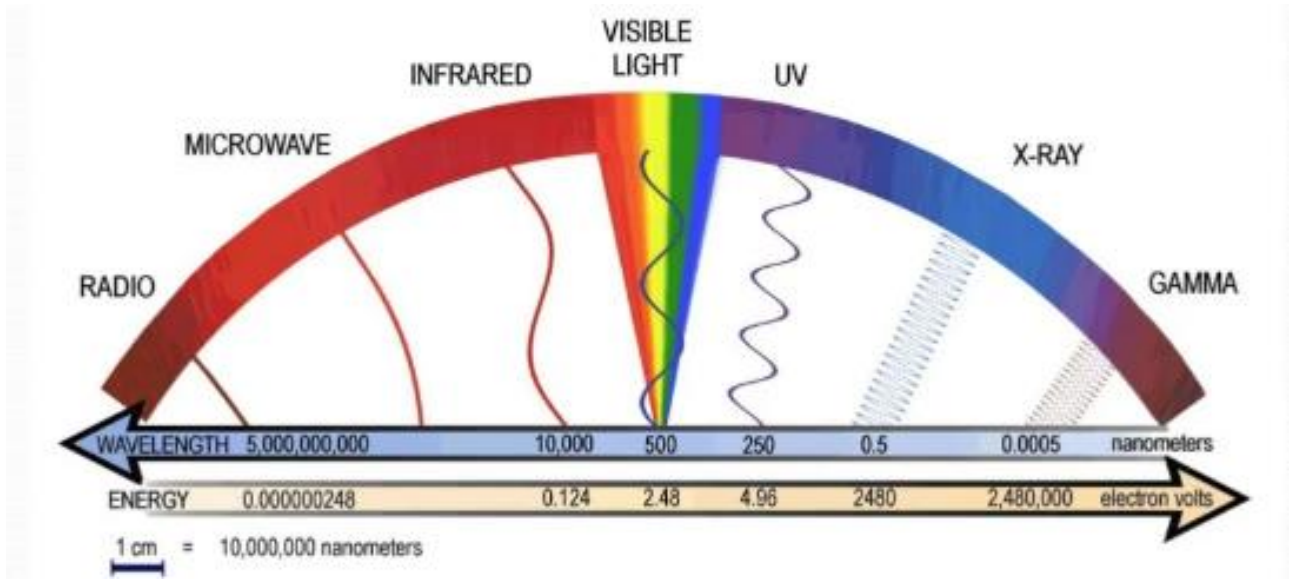

Fig. 1. Radiation spectrum (Illustration courtesy of Harvard University).^[1]
Generally, wave radiation has properties similar to optics including reflection, absorption, refraction and diffusion. However, space (wave) radiation wavelengths extend above and below the visible light spectrum. Radiation below visibility includes microwaves and radio frequencies (RF). Radiation above visibility includes ultraviolet, X and gamma rays. In Fig. 1, note the wavelengths and associated energies—which are key parameters for measuring radiation exposure.